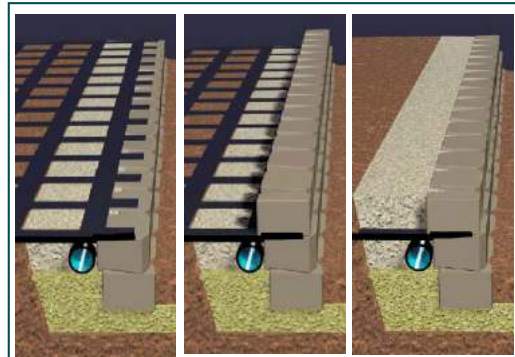

Figure 5
- 9) Where ParaGrid™ is required, cut the geogrid to the appropriate length shown on the drawings. Place the geogrid flat over the compacted backfill and to within 25mm of the front face of the block (Figure 5). Ensure that the geogrid is taught and flat on the compacted surface prior to placing of subsequent granular layers and block courses.